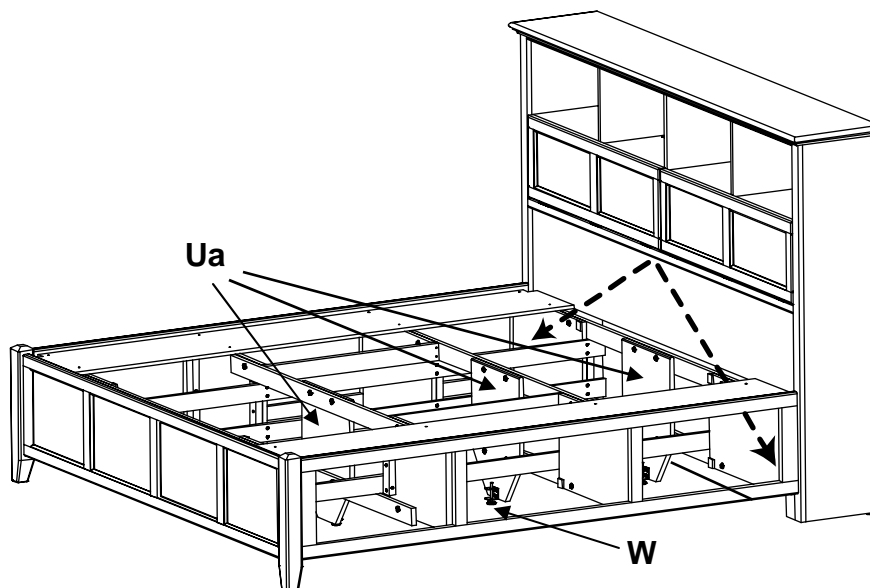

Fig. 11
11. Place your bed in its final position. Adjust all three Glides (W) found at the bottoms of the Foot Assemblies (Ua) so that the Glides just touch the floor. See Figure 11.
To level the headboard, stand in the open area in between the two attached deckboards and reach through the front of the platform. See Figure 11. Using a slotted screwdriver, rotate the Large Adjustable Glide (YA) clockwise until it bears weight. Repeat for the opposite side. See Figures 11a and 11b.